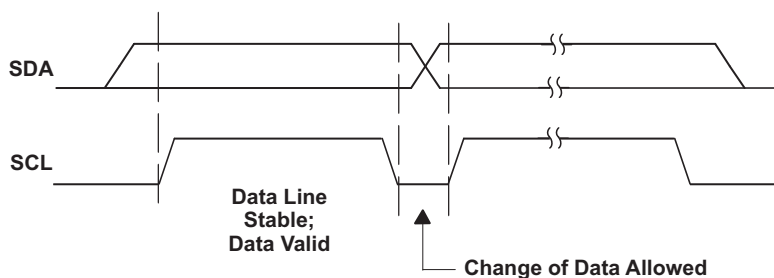

Figure 18. I²C Bit Transfer
- The master then generates the SCL pulses and transmits the 7-bit address and the read/write direction bit R/W on the SDA line. During all transmissions, the master ensures that data is valid. A valid data condition requires the SDA line to be stable during the entire high period of the clock pulse (see Figure 18). All devices recognize the address sent by the master and compare it to their internal fixed addresses. Only the slave device with a matching address generates an acknowledge (see Figure 19) by pulling the SDA line low during the entire high period of the ninth SCL cycle. On detecting this acknowledge, the master knows that a communication link with a slave has been established.